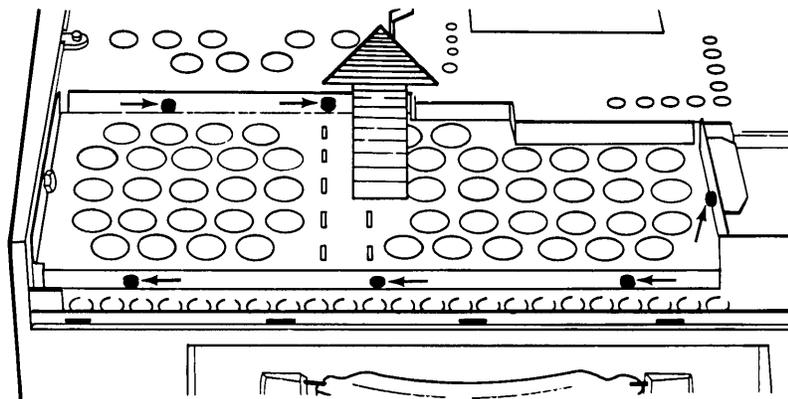

Figure 11-26. Removing the Cover of the PCB Compartment.
3. Loosen (DO NOT REMOVE) the three screws and one nut on the top edge. Lift the cover off (see Figure 11-26).